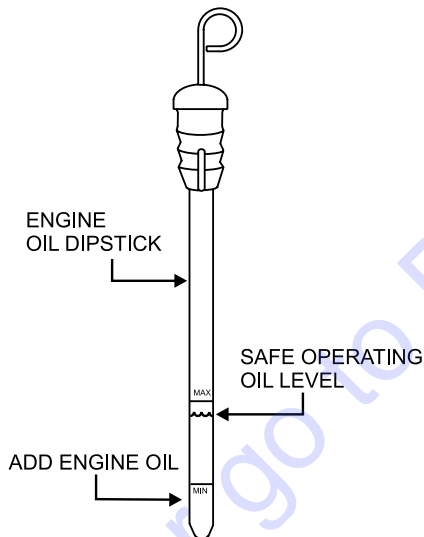

Figure 12. Engine Oil Level (Dipstick)
3. Verify that engine oil level (Figure 12) is maintained between the two notches on the dipstick.